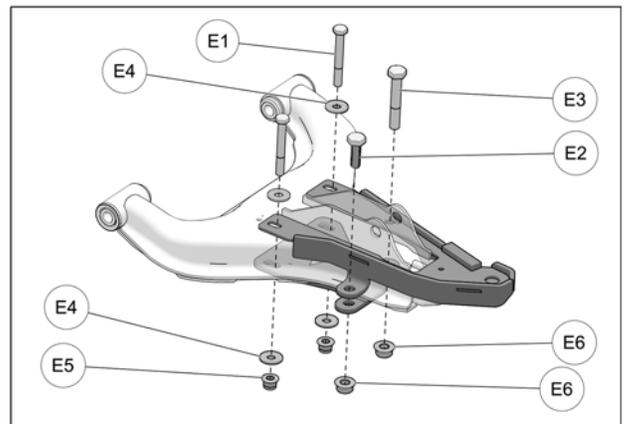

Fig. 18
8. Assemble stiffener and bottom plate with M10 bolts (**E3-E2**) and nuts (**E6**); M8 bolts (**E1**), washers (**E4**), and nuts (**E5**) as shown in Fig. 18. Hand-tighten these nuts and bolts temporarily. See Fig. 18.